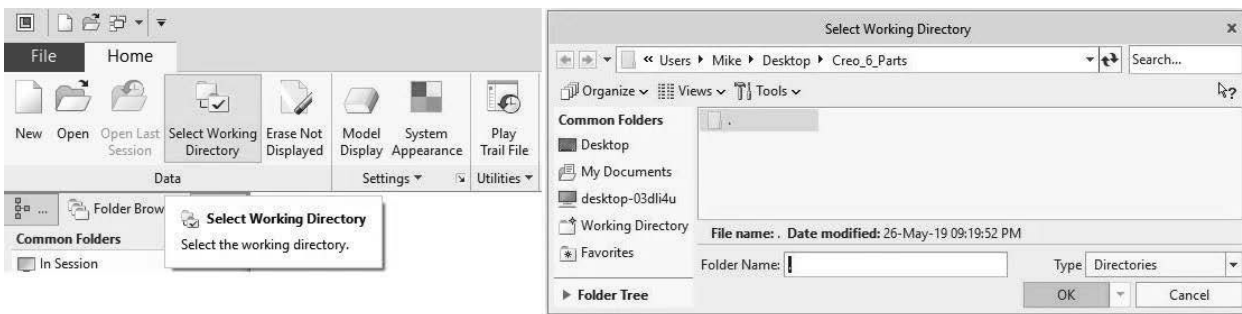

Figure 3-16 Set Working Directory
- Step 2:** Set your working directory, by *selecting the **Select Working Directory*** icon in the Home ribbon. Locate your working directory, and then *pick OK*. See Figure 3-16.